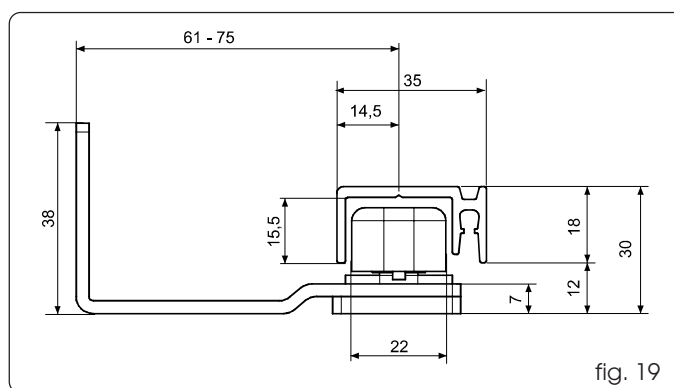

fig. 19
- Assemble the slides, referring to the dimensions in figures 19 and 20.
For the self-supporting version, we advise you to use the slide in fig. 19.